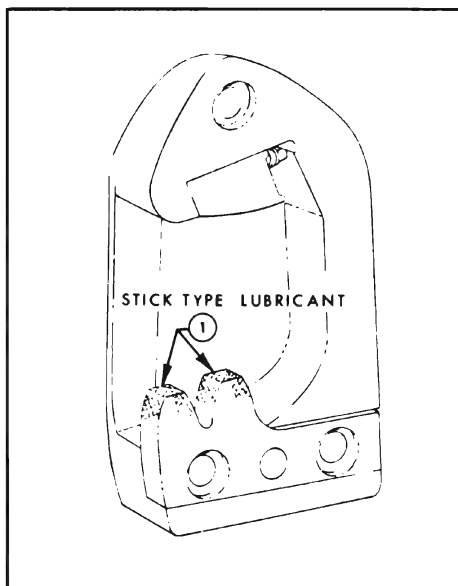

Figure 1-17—Door Lock Striker
2. Door Lock Striker. Wipe off dirt and apply a thin coat of stick-type lubricant to top surface of lock bolt striker teeth (Figure 1-17). After lubrication, close door several times and remove excess lubricant along side edge of teeth.